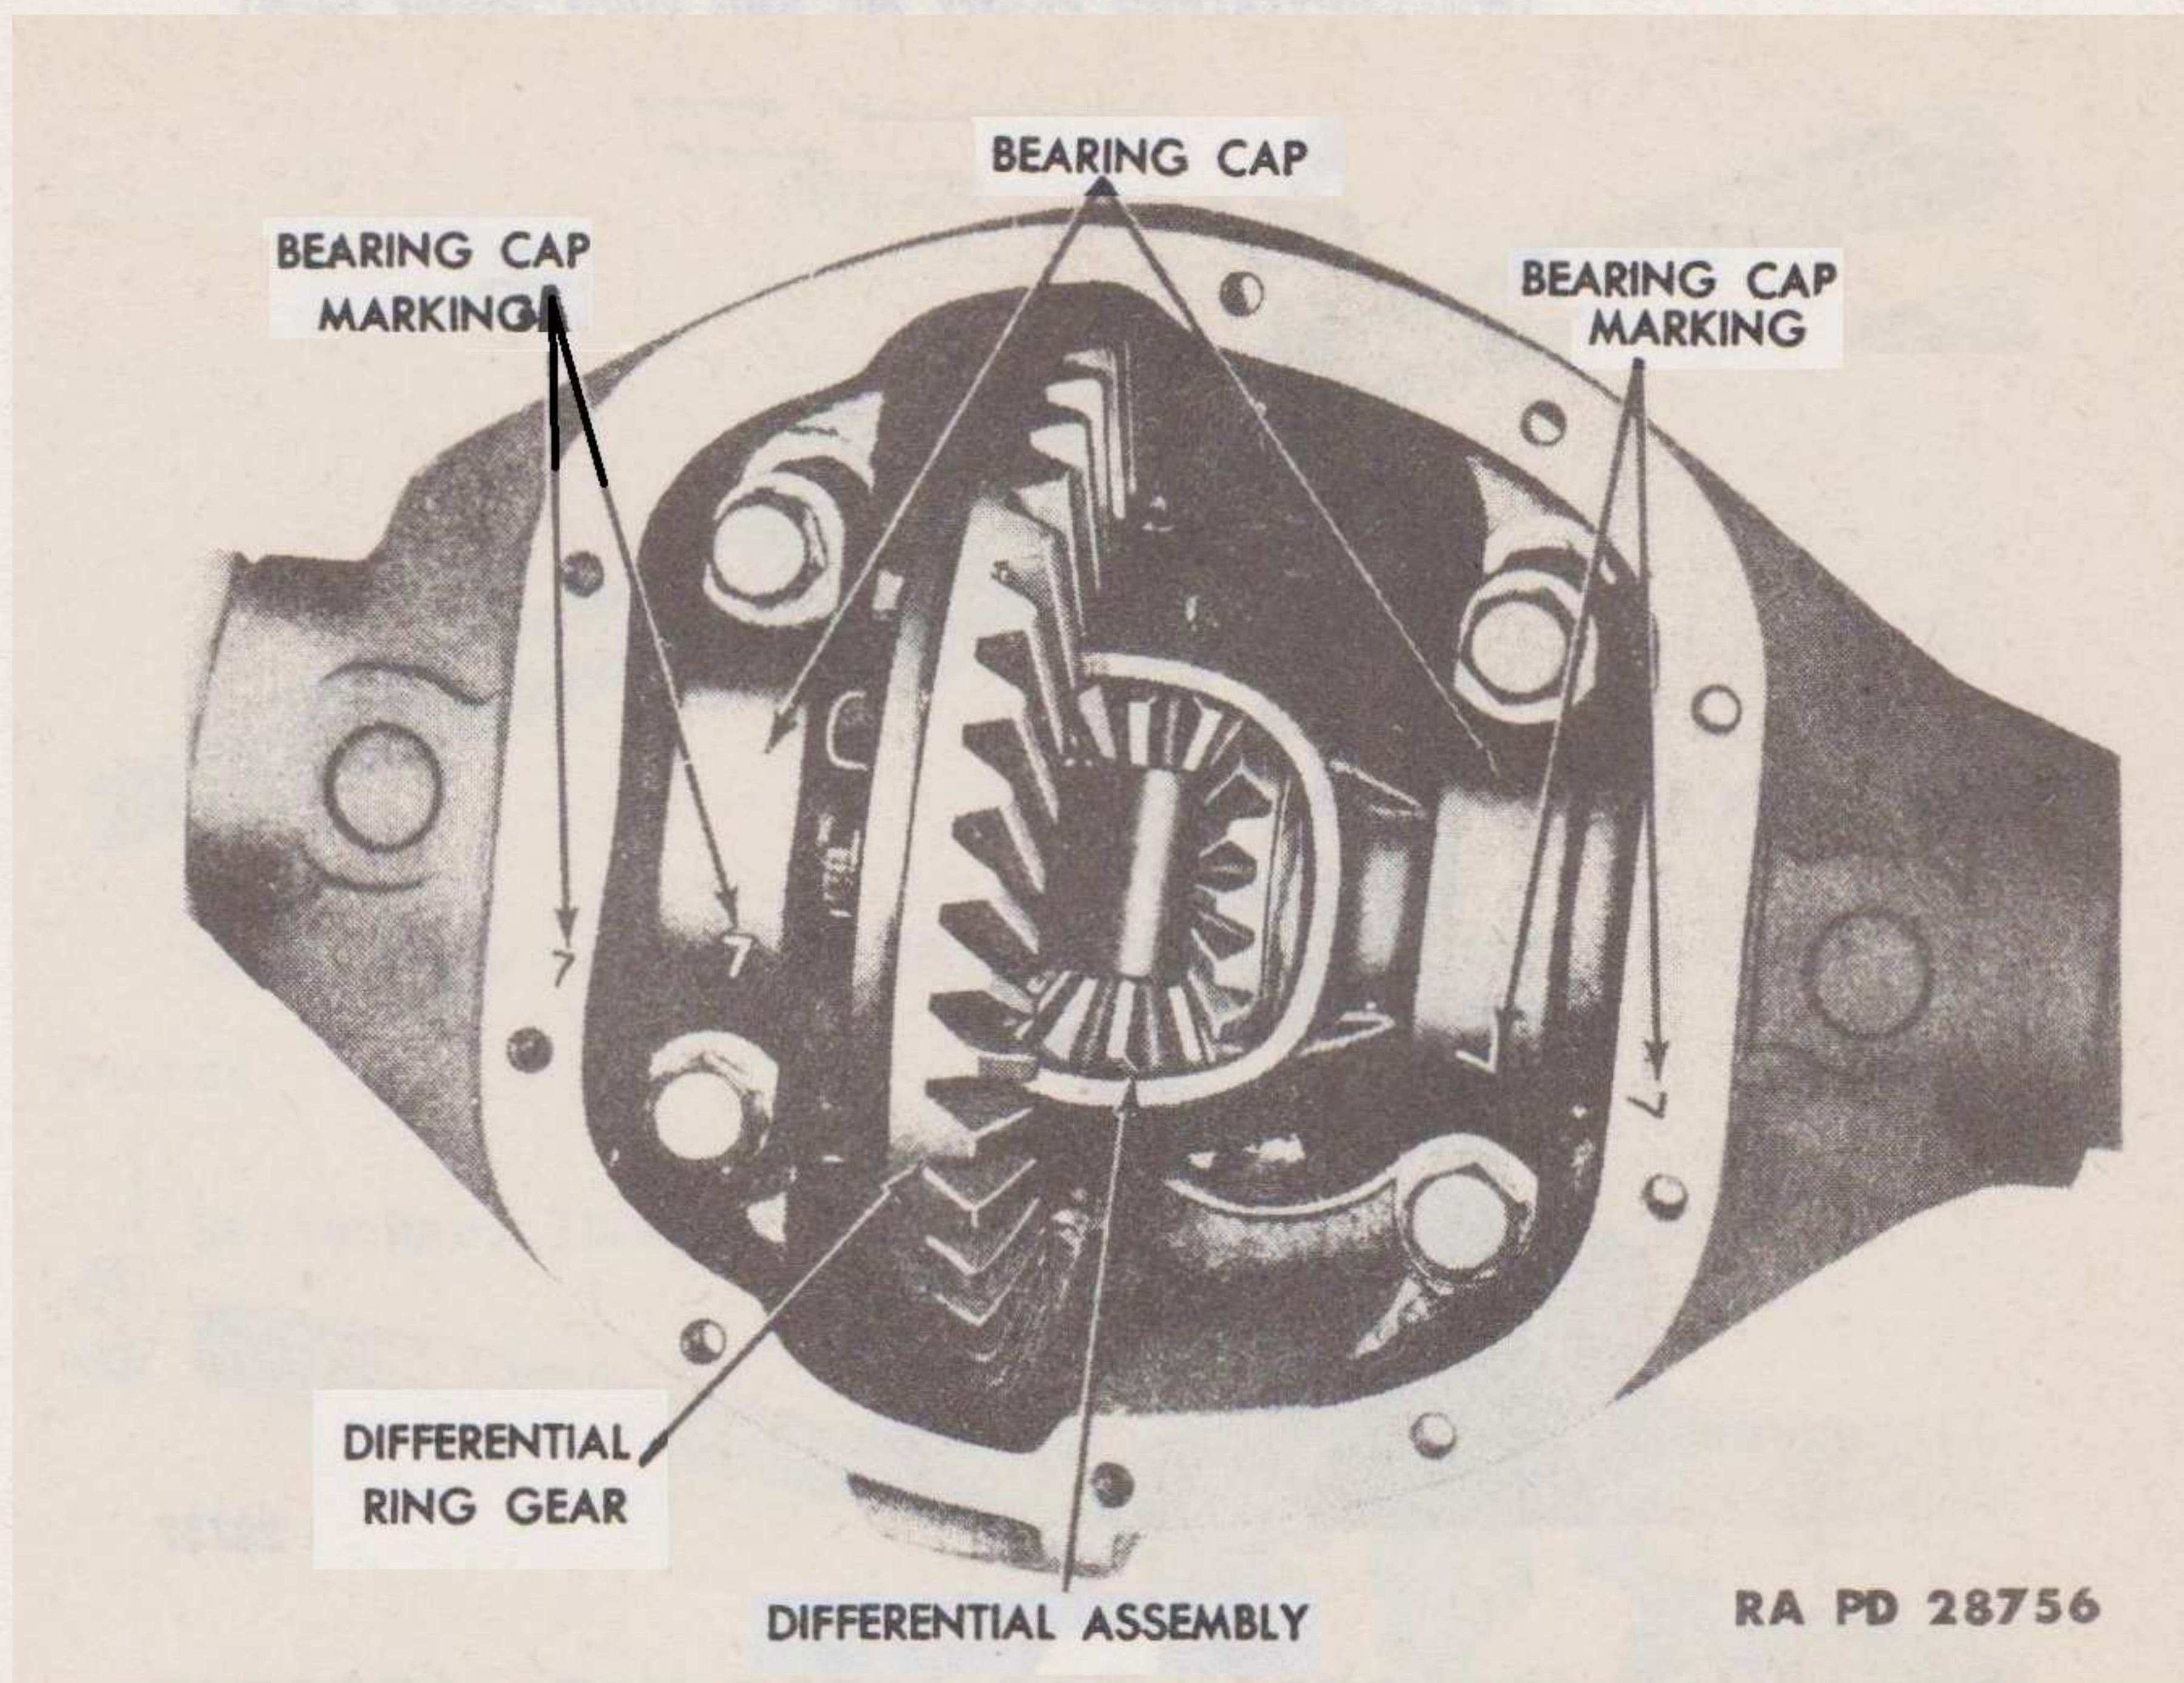

Figure 47 – Differential Assembly
e. **Remove Differential (fig. 47).** Remove the ten cap screws that secure the differential cover to the differential housing. Remove the differential cover and gasket. Remove the two cap screws from the bearing cap at each end of the differential gears and remove the caps. Remove the differential gear assembly from the housing, using a pry bar, if necessary. Reinstall the bearing caps in the housing, noting the markings (fig. 47) to assure their being installed in their correct location.
(2) **REMOVE RING GEAR FROM CASE** (fig. 47). Bend the ears of the lock plates off the cap screws. Remove the cap screws that secure the ring gear to the case, and remove the ring gear.